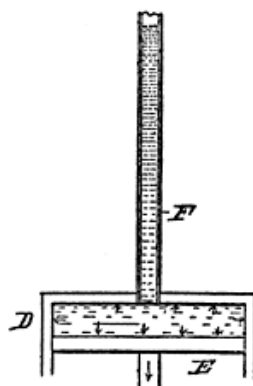

Fig. 132. Water Pressure ToList
This same thing applies to water which, as stated, is dependent on its head. Fig. 132 ^{p. 136} represents a cylinder (D) with a vertically movable piston (E) and a standpipe (F). Assuming that the pipe (F) is of sufficient height to give a pressure of 50 pounds to the square inch, then the piston (E) and the sides and head of the cylinder (D) would have 50 pounds pressure on every square inch of surface.